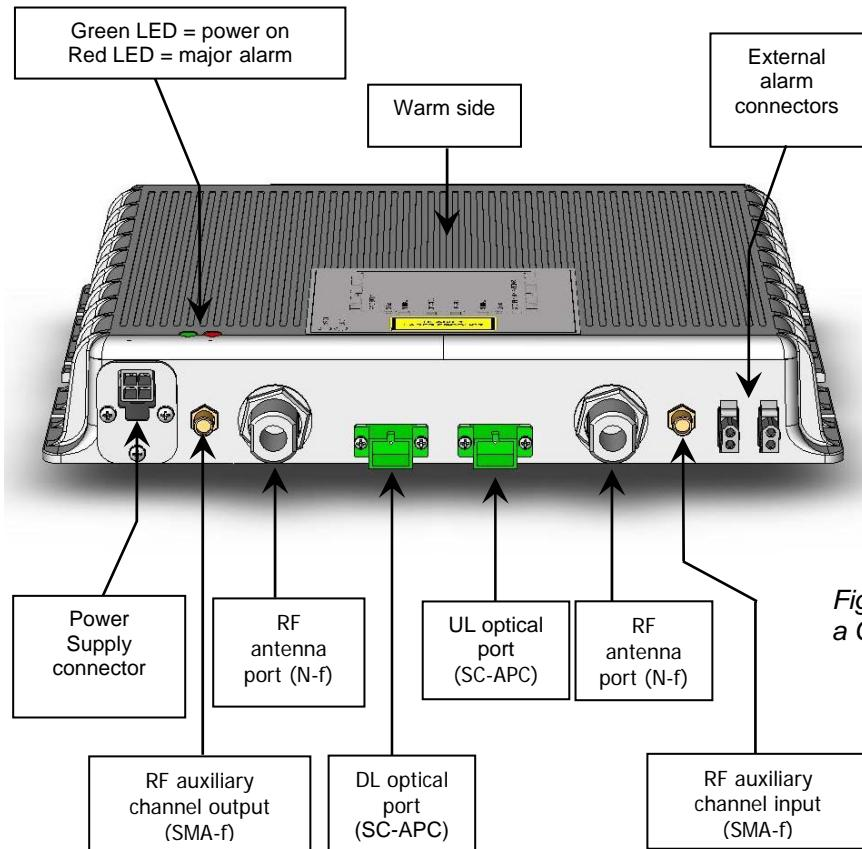

Fig. 3.4: 3D-drawing of a Case A remote unit
7. Connect the antenna RF cables to the RF antenna ports. Connect the UL and DL optical connectors (please refer to fig. 3.4). Apply a 50-Ohm load to the RF which are no connected to any antenna cable.